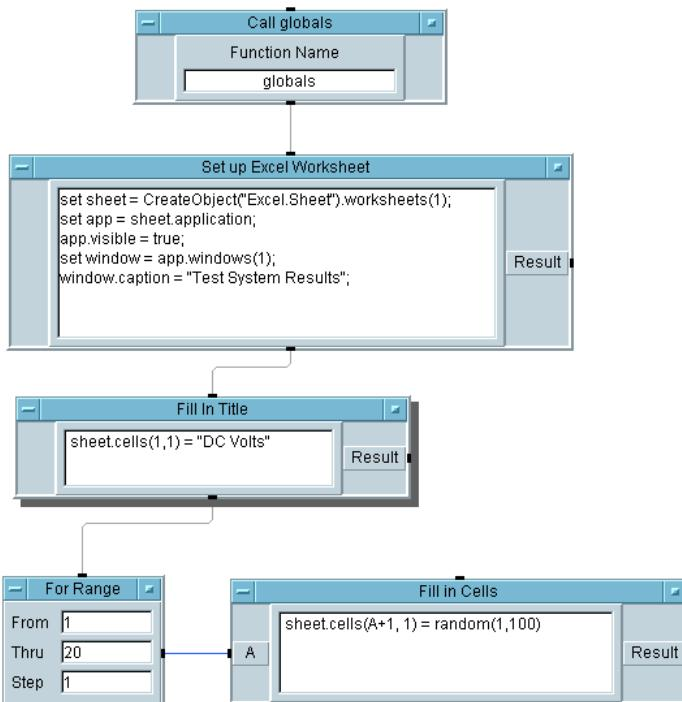

Figure 6-7. Adding the Title and Data to the Sheet
9. Create a Formula object (under Device ⇒ Formula). Clone the Formula object to create a second Formula object. Create a For Range object (under Flow ⇒ Repeat ⇒ For Range). Rename the objects, connect them, and configure them as shown in Figure 6-7. (Be sure to delete the input terminal on the Formula object Fill in Title.)